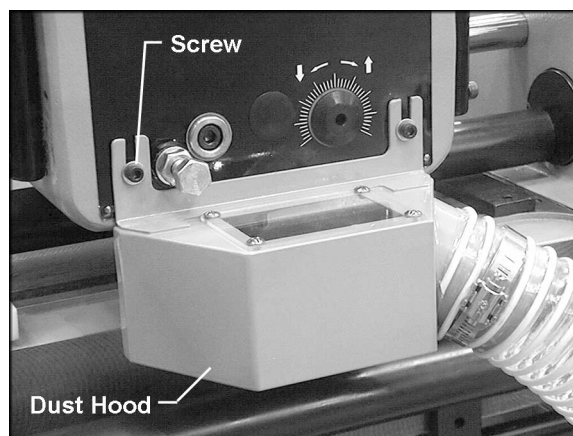

Figure 5
2. Loosen the two socket head cap screws on the front of the headstock (Figure 5) with a 4mm hex wrench.